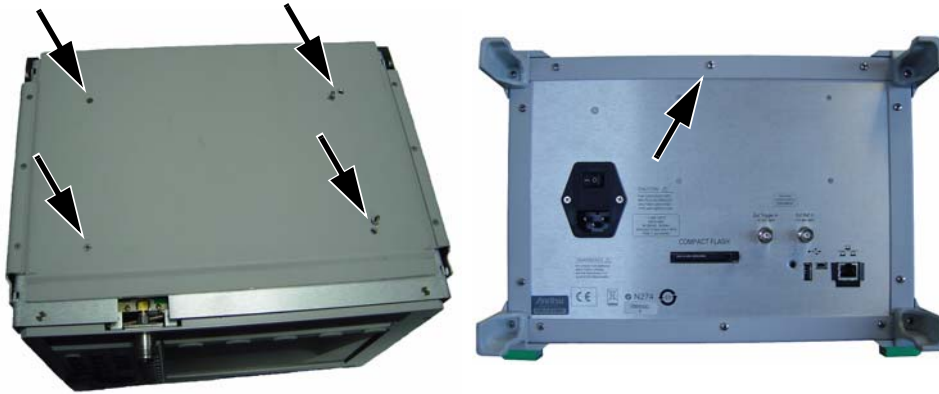

Figure 5-7. Screws that Hold Chassis within Outer Enclosure
- Remove the 4 screws from the bottom of the outer enclosure and the 10 screws from the back panel, as shown in Figure 5-7.